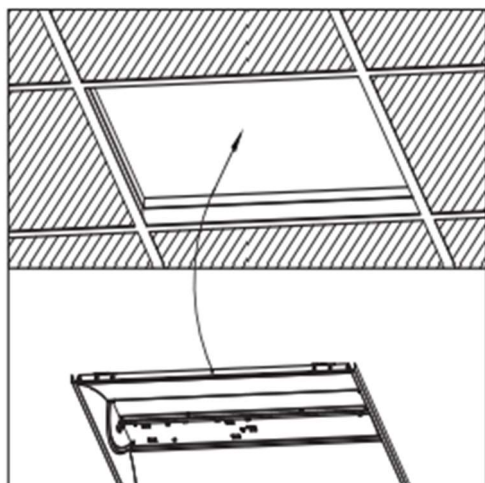

FIG. 8: CEILING INSTALLATION
- a. Place the fixture in the appropriate T-Grid ceiling structure. See Figure 8.